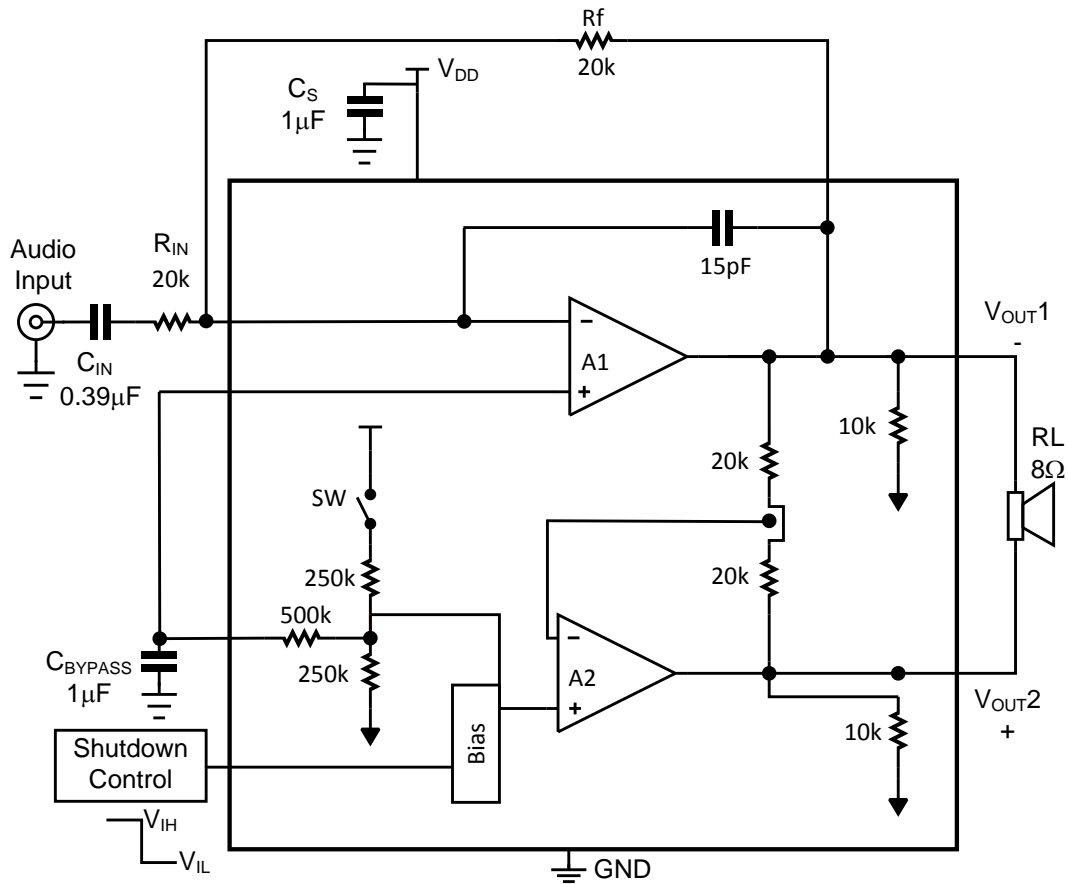

Figure 7. Typical Audio Amplifier Application Circuit
The following specifications apply for the circuit shown in Figure 7 unless otherwise specified. Limits apply for  $T_A = 25^\circ C$ .
- (1) All voltages are measured with respect to the ground pin, unless otherwise specified.
- (2) *Absolute Maximum Ratings* indicate limits beyond which damage to the device may occur. *Operating Ratings* indicate conditions for which the device is functional, but do not ensure specific performance limits. *Electrical Characteristics* state DC and AC electrical specifications under particular test conditions which ensure specific performance limits. This assumes that the device is within the Operating Ratings. Specifications are not ensured for parameters where no limit is given, however, the typical value is a good indication of device performance.
- (3) For DSBGA only, shutdown current is measured in a Normal Room Environment. Exposure to direct sunlight will increase  $I_{SD}$  by a maximum of 2 $\mu A$ .
- (4) Typical values are measured at 25 $^\circ C$  and represent the parametric norm.
- (5) Limits are specified to TI's AOQL (Average Outgoing Quality Level).
- (6) Datasheet min/max specification limits are specified by design, test, or statistical analysis.
- (7) ROUT is measured from each of the output pins to ground. This value represents the parallel combination of the 10k ohm output resistors and the two 20k ohm resistors.
- (8) PSRR is a function of system gain. Specifications apply to the circuit in Figure 7 where  $A_V = 2$ . Higher system gains will reduce PSRR value by the amount of gain increase. A system gain of 10 represents a gain increase of 14dB. PSRR will be reduced by 14dB and applies to all operating voltages.
The following specifications apply for the circuit shown in Figure 7 unless otherwise specified. Limits apply for  $T_A = 25^\circ\text{C}$ .
(8) PSRR is a function of system gain. Specifications apply to the circuit in Figure 7 where  $A_V = 2$ . Higher system gains will reduce PSRR value by the amount of gain increase. A system gain of 10 represents a gain increase of 14dB. PSRR will be reduced by 14dB and applies to all operating voltages.
The following specifications apply for for the circuit shown in Figure 7 unless otherwise specified. Limits apply for  $T_A = 25^\circ\text{C}$ .
(1) All voltages are measured with respect to the ground pin, unless otherwise specified.
(3) For DSBGA only, shutdown current is measured in a Normal Room Environment. Exposure to direct sunlight will increase  $I_{SD}$  by a maximum of 2 $\mu\text{A}$ .
(4) Typical values are measured at  $25^\circ\text{C}$  and represent the parametric norm.
(5) Limits are specified to TI's AOQL (Average Outgoing Quality Level).
(6) Datasheet min/max specification limits are specified by design, test, or statistical analysis.
(7) PSRR is a function of system gain. Specifications apply to the circuit in Figure 7 where  $A_V = 2$ . Higher system gains will reduce PSRR value by the amount of gain increase. A system gain of 10 represents a gain increase of 14dB. PSRR will be reduced by 14dB and applies to all operating voltages.